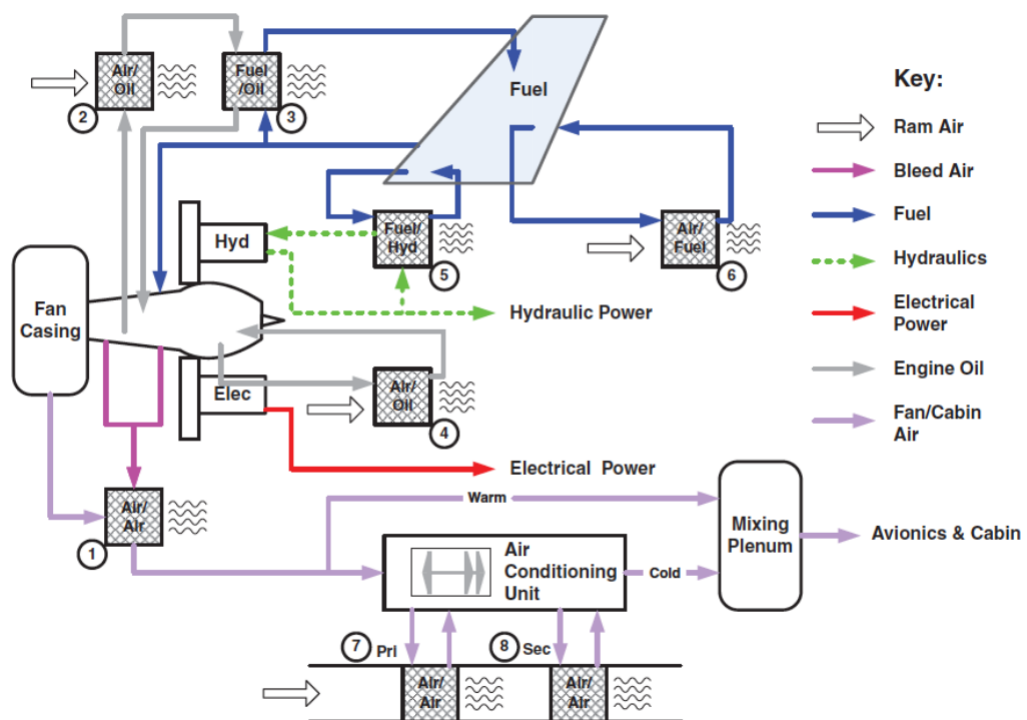

Figure 2: An example of system interactions (Fig. 2.7 M&S).
2. Identify the systems involved in the example of system interactions concerning heat transfer in Figure 2. Use an N2 chart to identify the (directional) interactions between systems.